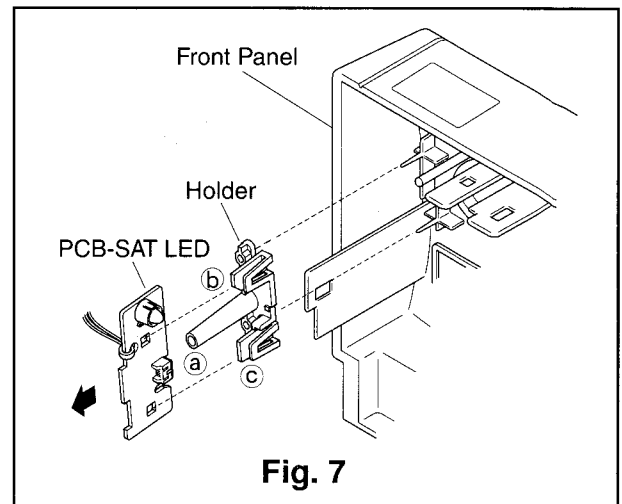

Fig. 7
- ③ Pull the part (a) shown in Fig. 7 to remove the holder from the Front Panel.
- ④ Unfasten the two catches (b) and (c) and pull them in the direction shown by the arrow to remove the PCB-SAT LED.